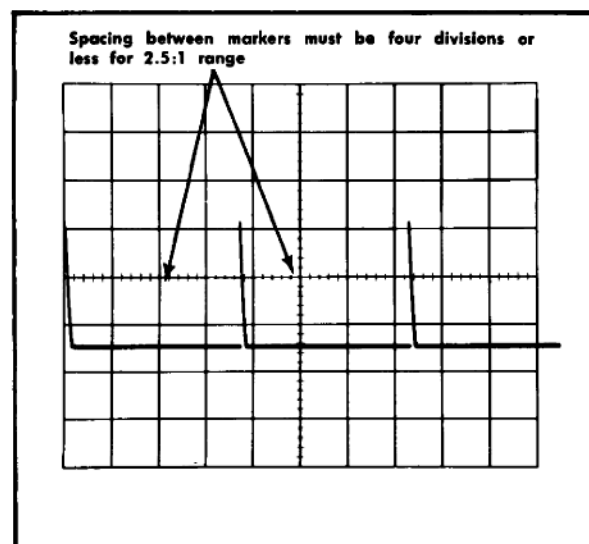

Fig. 6-9. Typical CRT display when checking VARIABLE control range.
- d. CHECK—CRT display for four-division maximum spacing between markers (2.5:1 range; see Fig. 6-9). UNCAL readout must come on and s/DIV readout must be off when VARIABLE control is out of the CAL position.